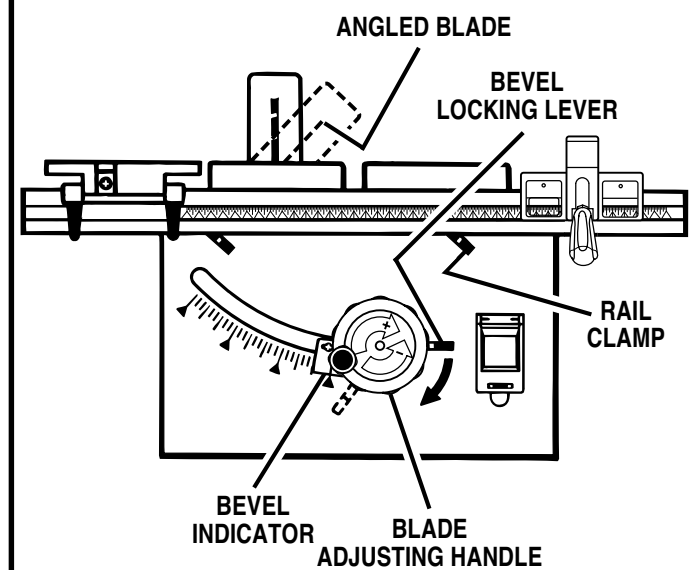

Fig. 32
See Figure 32.
- Loosen both front and rear rails by lifting the front and rear rail clamps. See Figure 32.